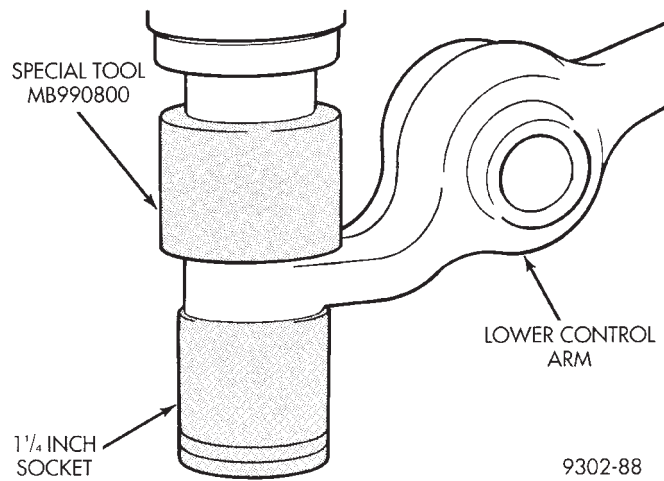

Fig. 7 Installing Ball Joint Seal
(1) By hand, initially install the ball joint seal on the lower control arm.
(2) Lower control arm is to be supported using a 1 1/4 inch socket (Fig. 7). Position the 1 1/4 inch socket, lower control arm and Seal Installer, Special Tool MB-990800 in an arbor press (Fig. 7).
(3) Using Installer, Special Tool MB-990800, press seal onto ball joint housing until it is squarely seated against top surface of control arm (Fig. 7).